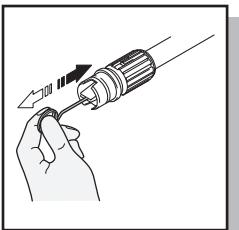

Fig. 19
- Using the nozzle tip cleaner provided (or an unfolded paper clip), insert the wire into the nozzle hole and move back and forth until debris is dislodged (Fig. 19). Back flush water through the nozzles using garden hose and highest pressure available (either standard water nozzle or use your thumb over the nozzle to create water pressure for back flush).